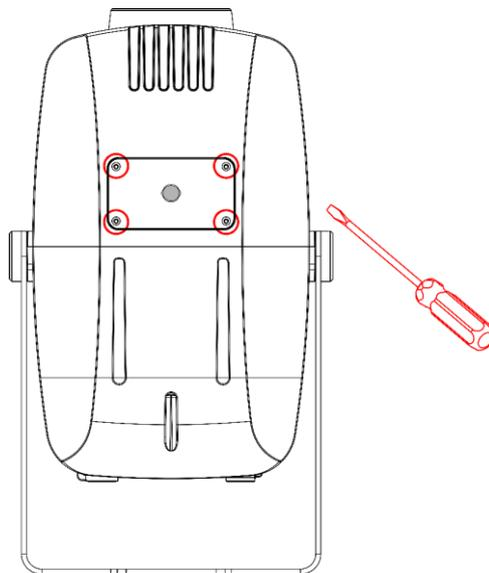

Fig. 15
- 03) Loosen the 4 screws on the head cover, as shown in Fig. 15.